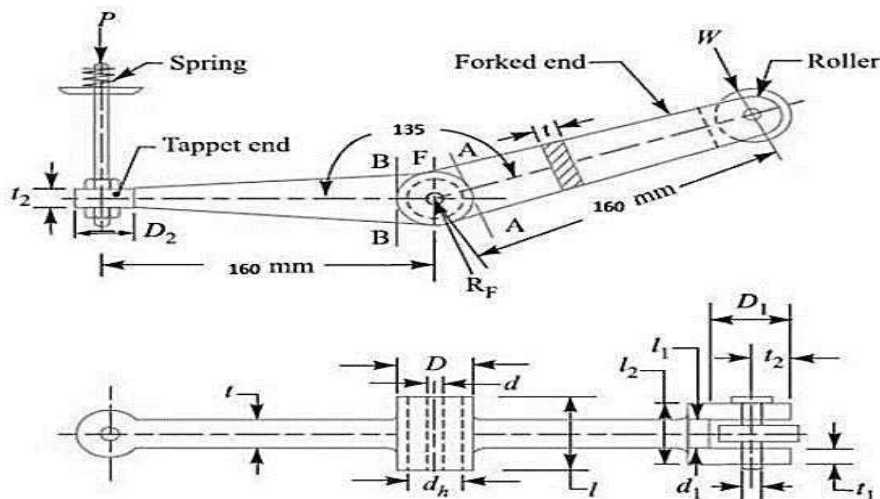

Figure. 3.2
6. Design a rocker arm lever Fig 3.2 having equal arms of 160 mm length inclined at 135° for an exhaust valve of a gas engine subjected to a maximum force 2500 N at roller end. Consider – I cross section $6t \times 2.5t \times t$ size (where t = thickness of web and flange) for lever. The permissible stresses for the lever material are 80 MPa in tension and design bearing pressure is 6 MPa for pin.